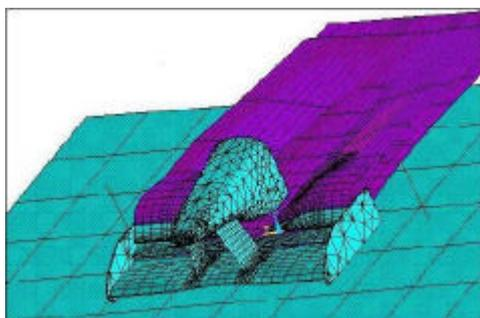

Figure 1. Model (incl. wake) for Aeroelastic Analysis of front wing system for a F1 car and it's influence on the system stability.
- ▶ Flow field influence on structural dynamics (See Figure 1).